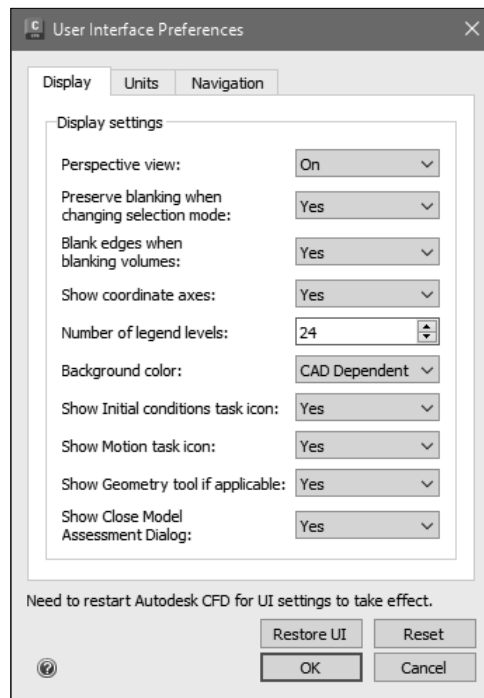

Figure-15. User Interface Preferences dialog box
- Click on the **Options** tool from **Launch** panel to customize the user interface, the **User Interface Preferences** dialog box will be displayed; refer to Figure-15.